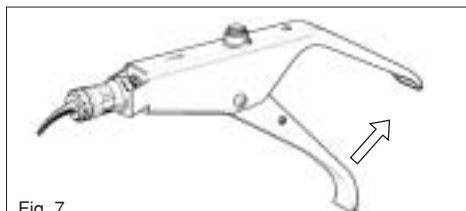

Fig. 7
- b) Make 2 strokes with lever to prime the capsule. Make the third stroke slowly to check if the cement is extruded in the nozzle. Direct the capsule nozzle into the restoration or prepared tooth cavity and make slowly the fourth stroke to allow smooth dispensing of the cement (Fig. 7). Avoid putting too much force onto the applicator.